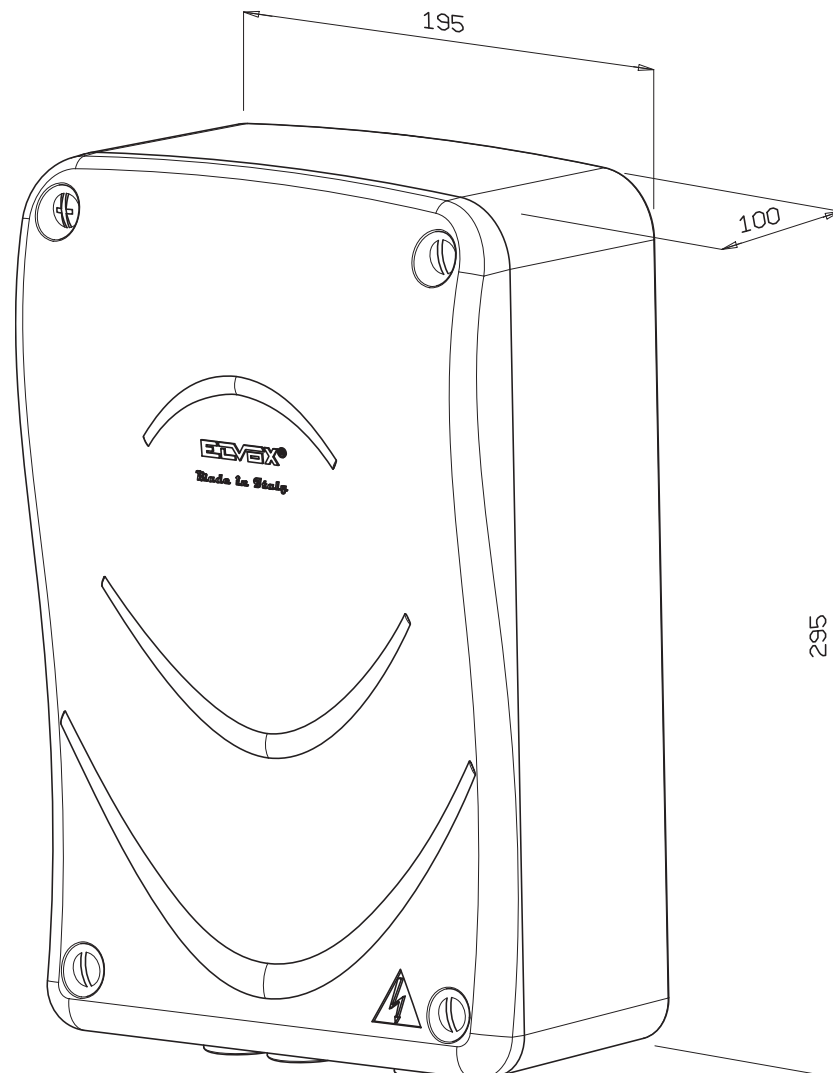

Fig. 1
- 1 -After inserting the actuator, make the connections following the steps indicated in control unit ECA7 (Fig. 1).